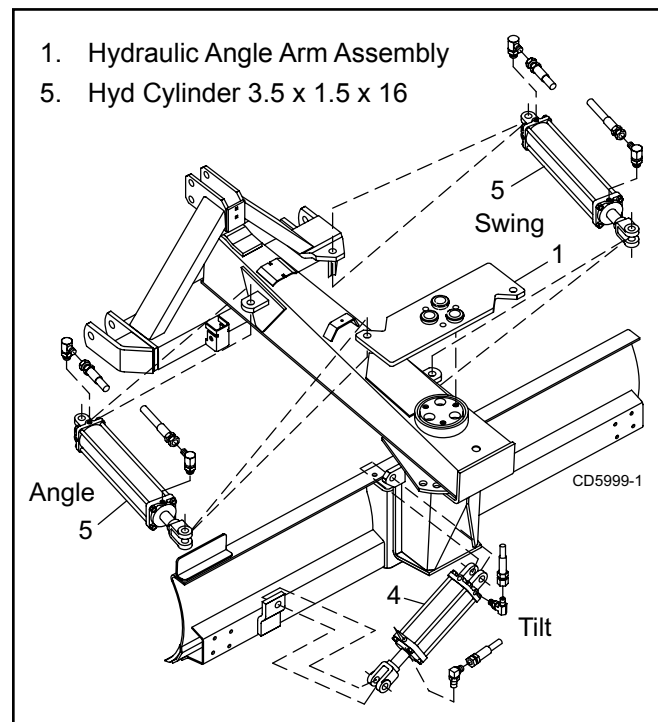

Figure 3. Hydraulic Configuration Assembly
3. Hydraulic – Detach the angling cylinder (7) from the hydraulic angle arm (1), Figure 3, and rotate it counter-clockwise to the desired position. Attach angling cylinder (7) to hydraulic angle arm (1).